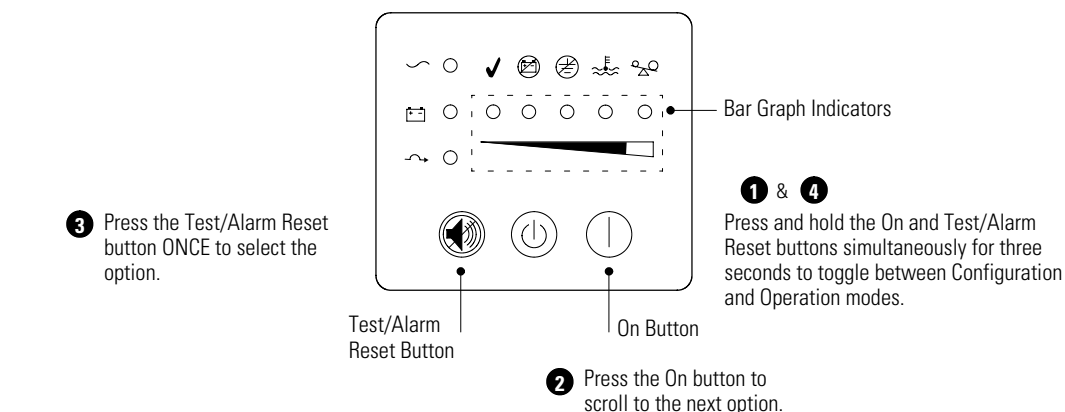

Figure 21. Using Configuration Mode
When the UPS is in Configuration mode, the bar graph indicators represent the configuration options. Use the control buttons (On | button and  button) to modify the UPS configuration. Figure 21 shows the LEDs and Table 4 explains the corresponding options.
2. Press and hold the On | button until you hear the second beep to scroll through the options. The LED for the selected option indicates the current setting; flashing represents disabled options (see Figure 21 and Table 4).